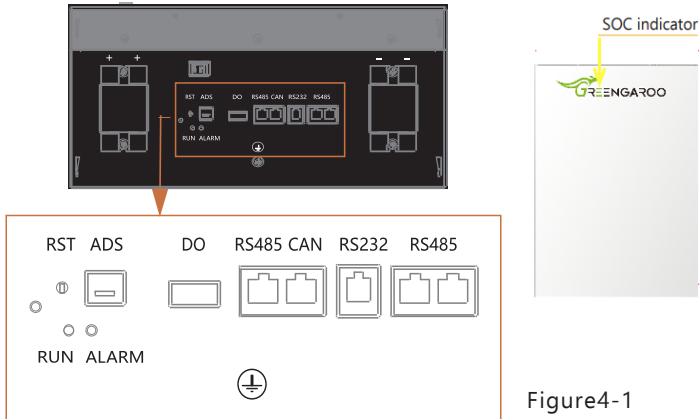

Figure4-1
4.1.2 After the indicator self-test, the RUN indicator will light and the SOC indicator will be on (100% SOC status in Figure 4-1).